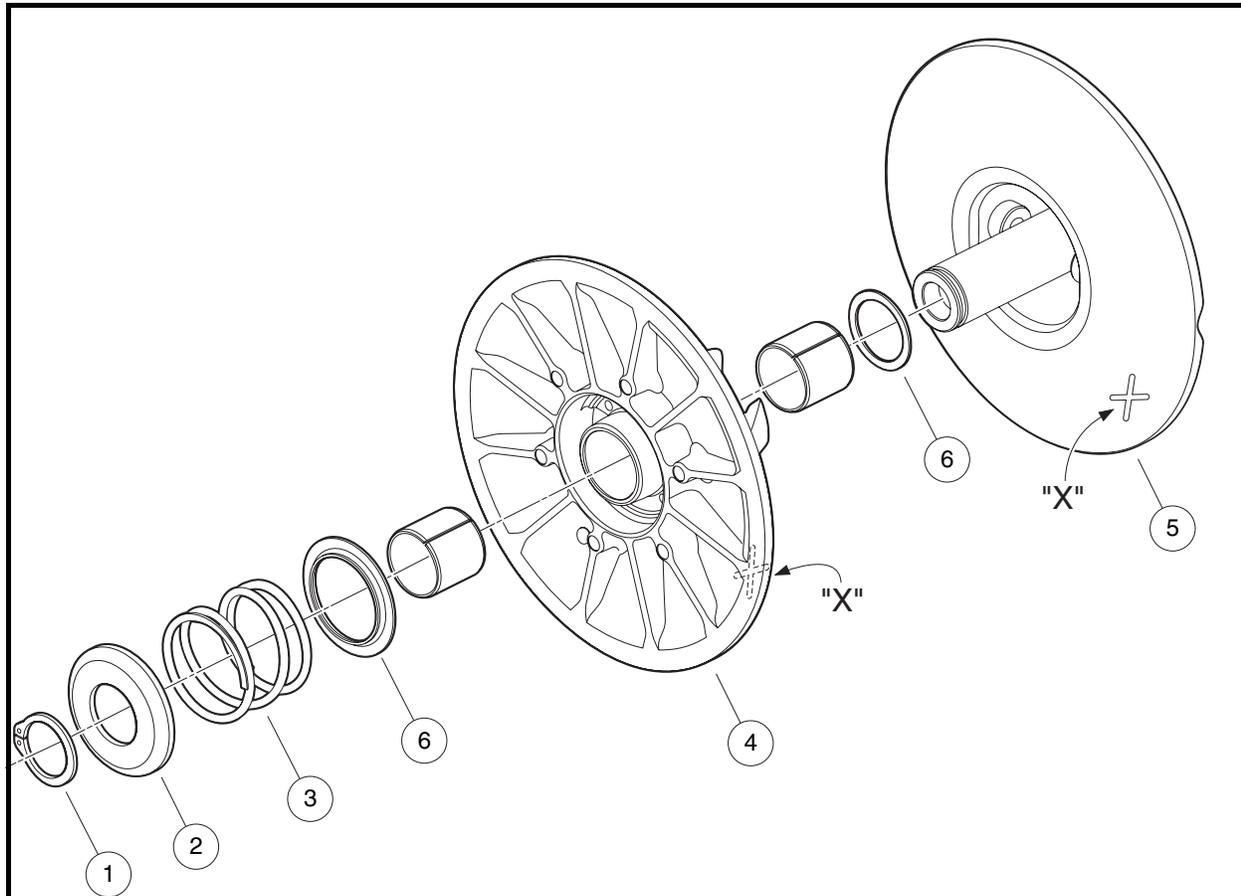

Figure 13a-36 Driven Clutch Assembly
1. Place the fixed sheave (5) onto the spring compression base and note the location of the X so the X on the moveable sheave (4) can be aligned correctly (**Figure 13a-36, Page 13a-38**).
2. Place the moveable sheave (4) onto the fixed sheave (5), and align the X's on both components.
3. Place the spring (3), cup (2), and snap ring (1) onto the clutch.
4. Place the spring compression collar onto the cup (**Figure 13a-35, Page 13a-37**).